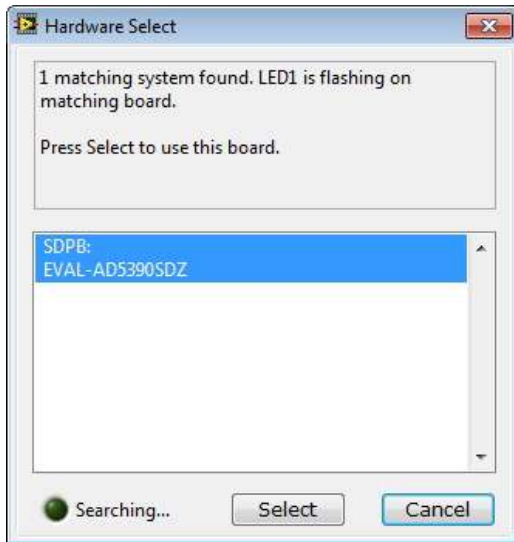

Figure 3. Connection Message
5. Click **Start > All Programs > Analog Devices > AD539x > AD539x Evaluation Software**. When the software connects to the evaluation board, the message shown in Figure 3 displays.